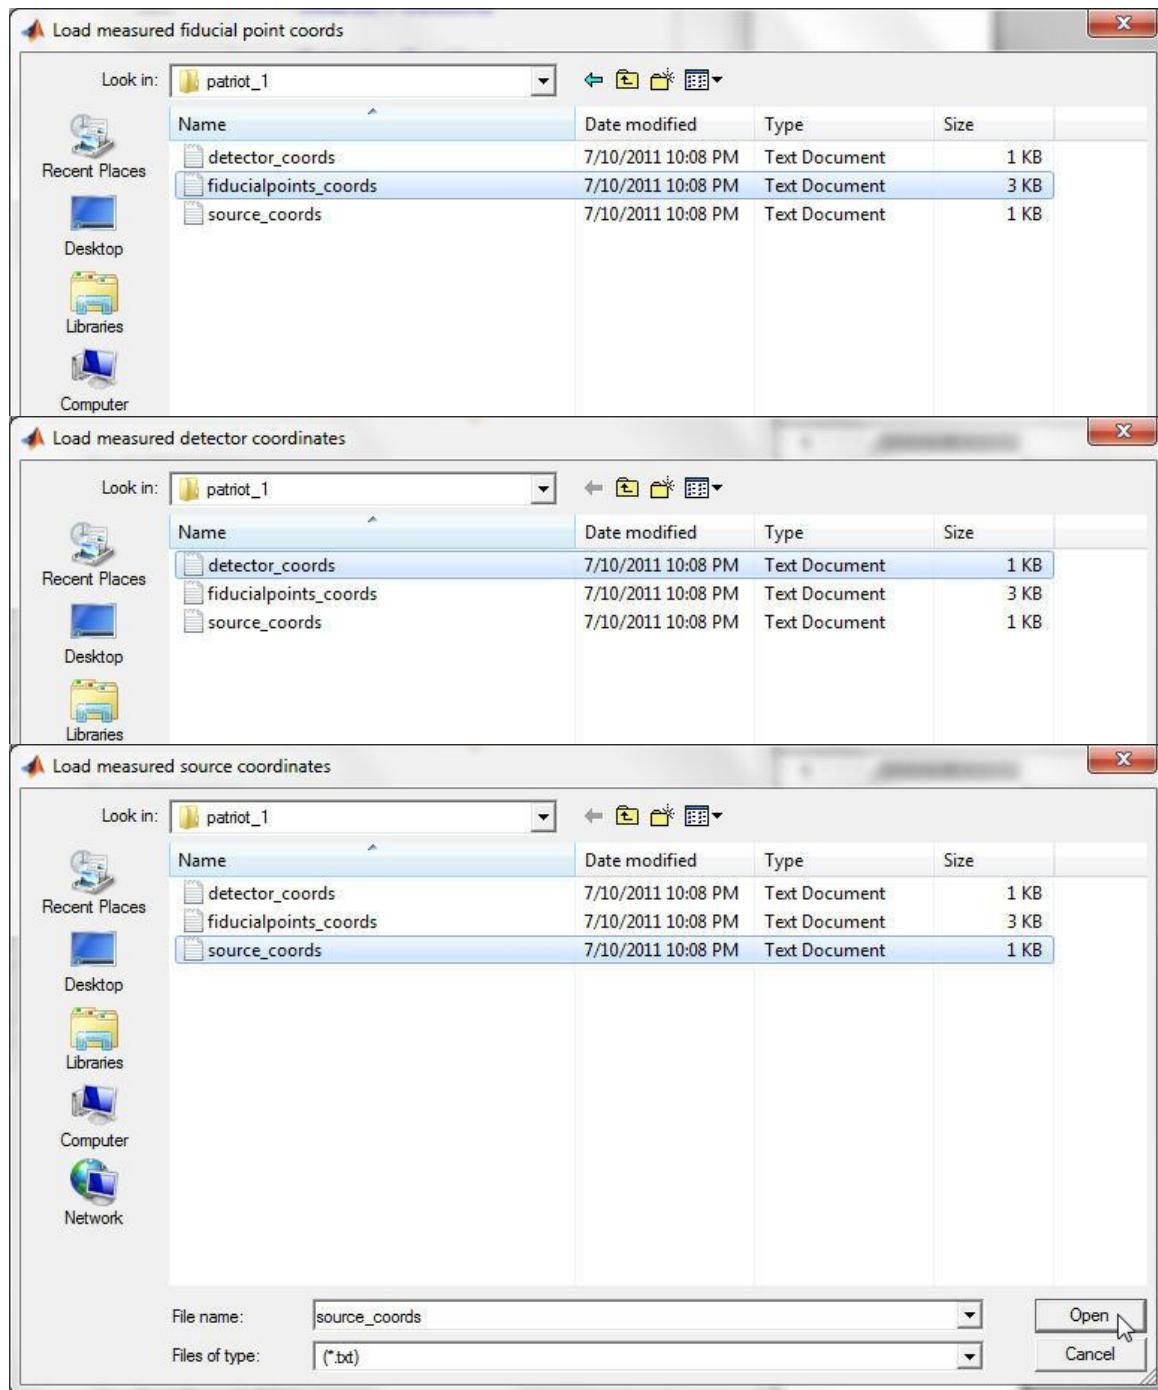

Figure 7-17. Sequential loading of coordinate files.
Step 2: Click the 'Load' button next to the words 'S/D position files' to open a browser window, which you will use to navigate to the folder where the files containing the measured source, detector and fiducial point coordinates are stored. Sequentially open the measured fiducial-point coordinates first, then the detector coordinates, and finally the source coordinates, as shown in Figure 7-17.